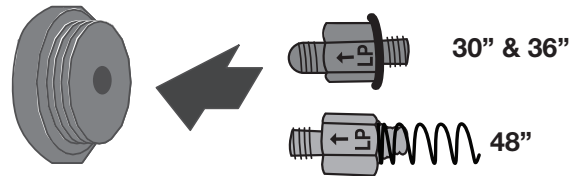

Figure 11
- 5 Reverse the retainer pin and snap it back into the regulator cap (see Figure 11).